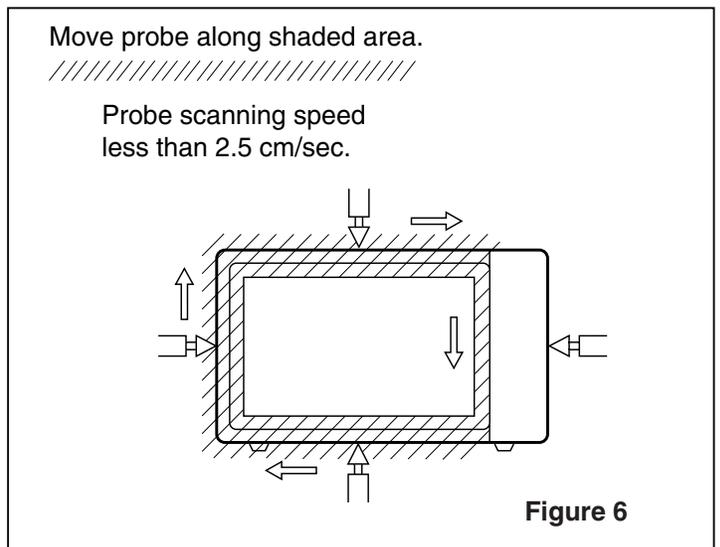

Figure 6
- (1) Pour $275 \pm 15\text{cc}$ of $20 \pm 5^\circ\text{C}$ water in a beaker which is graduated to 600 cc, and place the beaker in the center of the oven.
- (2) Set the energy leakage monitor to 2450 MHz and use it following the manufacturer's recommended test procedure to assure correct result.
- (3) When measuring the leakage, always use the 2 inch (5cm) spacer supplied with the probe.
- (4) Operate the oven at its maximum output.
- (5) Measure the microwave radiation using and electromagnetic radiation monitor by holding the probe perpendicular to the surface being measured. (See Figure 6)